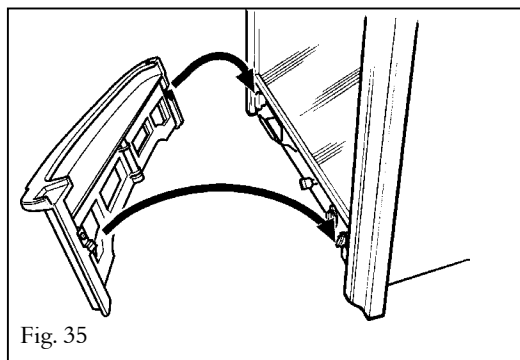

Fig. 35
7.10.2.1 Attach the bottom front casting by hooking the two steel locators at back of the casting over the brackets at the bottom of the front frame sides (see fig. 35). Check that the swing door opens and shuts correctly.